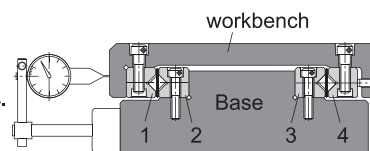

Figure 1 Installation of Crossed Roller Guide Rails
(4) As shown in Figure 1, set up the dial indicator. Then, while gently pushing the worktable left and right, slowly tighten all the adjusting bolts until there is no gap left and right.
(5) Install stop blocks at the ends of the tracks.